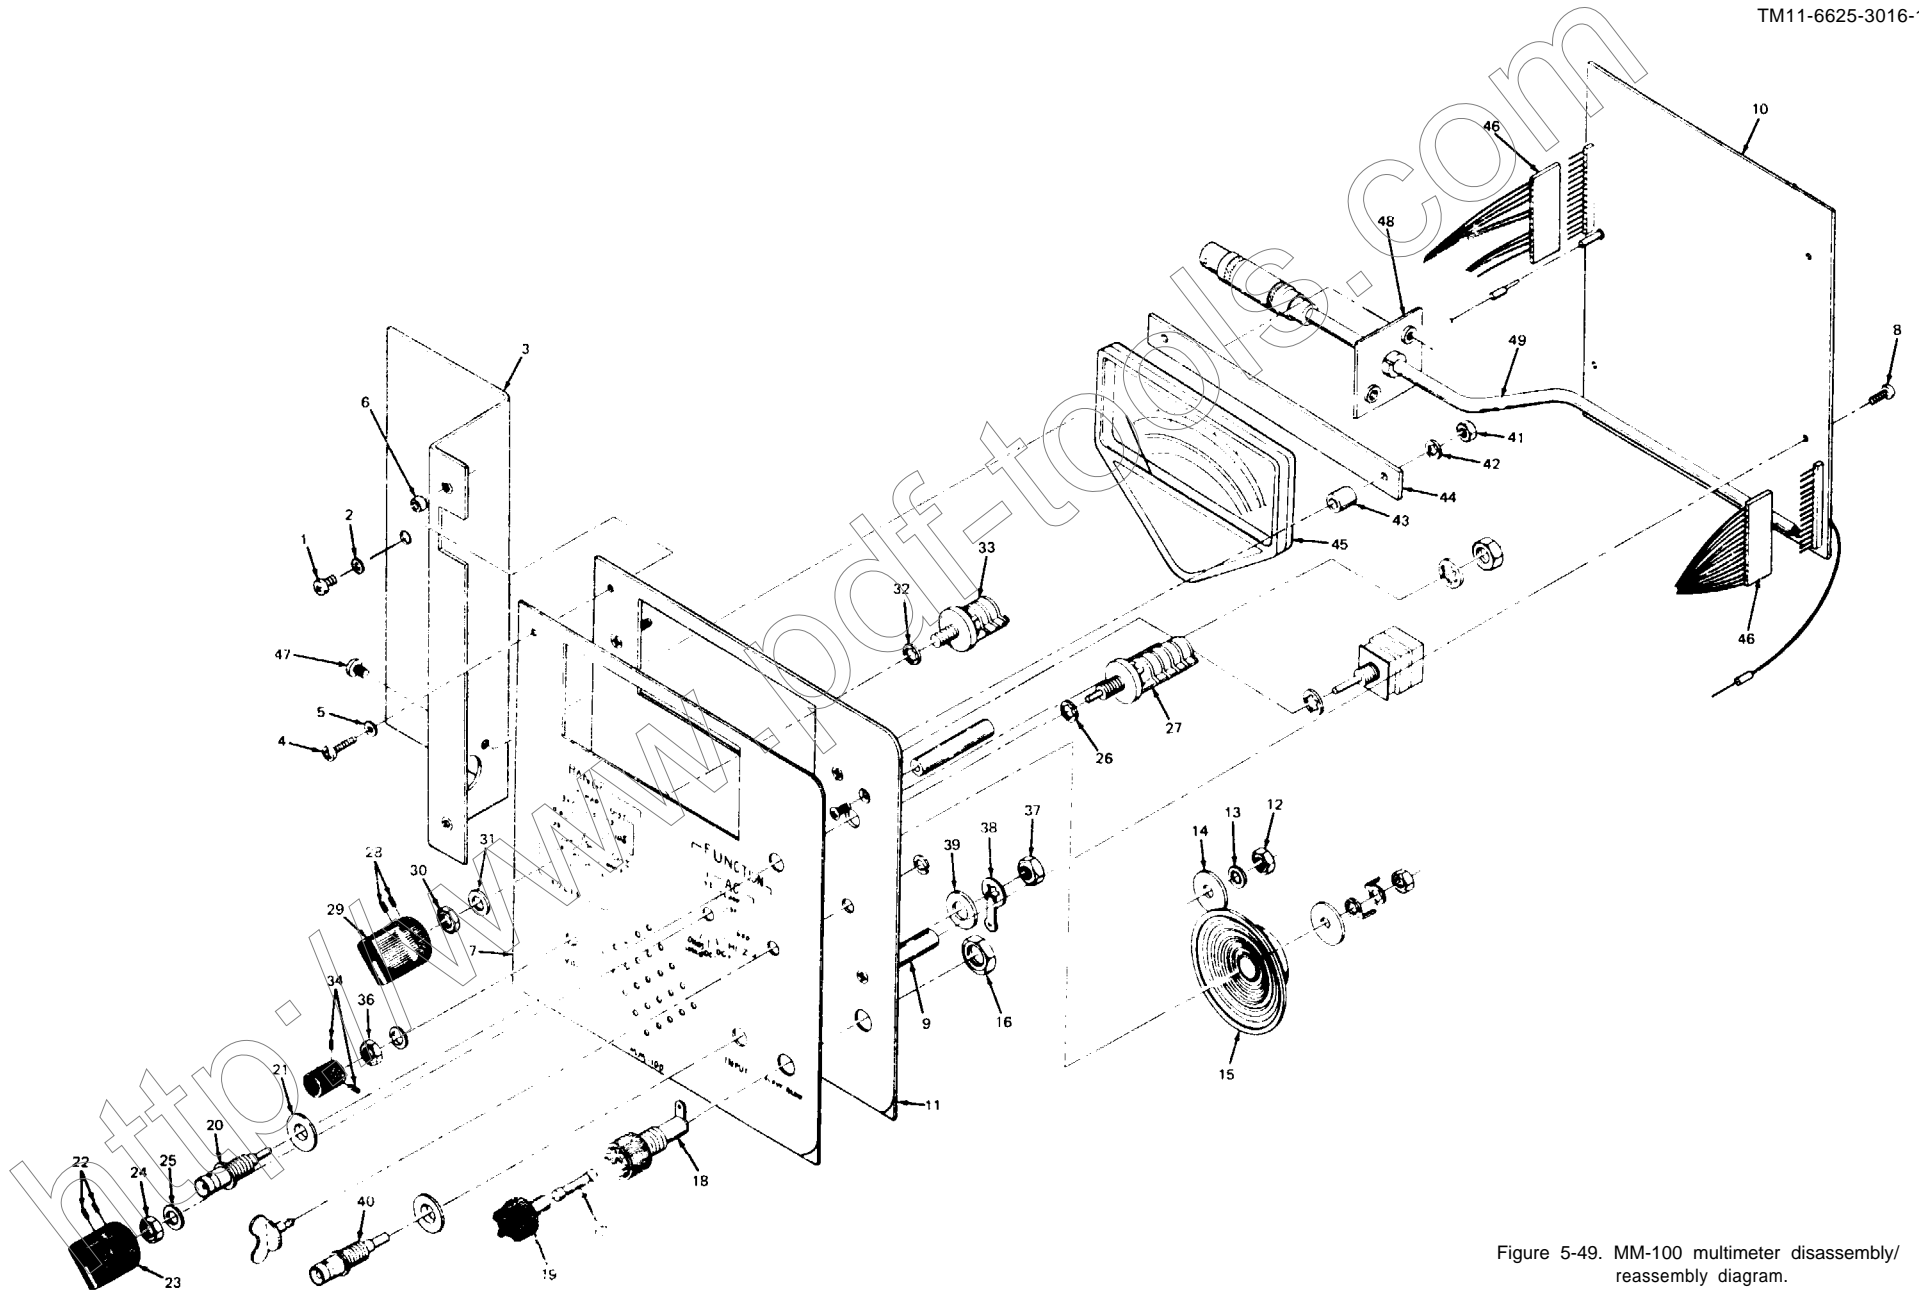

Figure 5-49. MM-100 multimeter disassembly/reassembly diagram.
- (1) Attach cable assembly (49) to PCB Assembly (10) by soldering four wires to PCB Assembly (figure 5-49).
- (2) Attach two connectors (46) to Circuit Board (10) (figure 5-49).
- (3) Attach cable retaining plate (48) to bracket (3) with two Phillips screws (47) (figure 5-49).
- (4) Attach Circuit Board (10) to stand-offs (9) of Structural Front Panel (11) with three 1/2" screws (8) (figure 5-49).
- (5) Attach bracket (3) to Front Panel (7) with two spacers (6), two flat washers (5), and two 7/16" Phillips screws (4) (figure 5-49).
- (6) Attach bracket (3) to MM-100 case with one 1/4" Phillips screw (1) and one washer (2) (figure 5-49).
- (7) Tighten 1/4-turn fastener which holds right-hand side of MM-100 Composite Assembly to MM-100 case.
(8) Attach metal cover plate to MM-100 accessory compartment by tightening 1/4-turn fastener.
(9) Slide MM-100 cover onto AN/GRM-114 cover, then secure by locking latches.